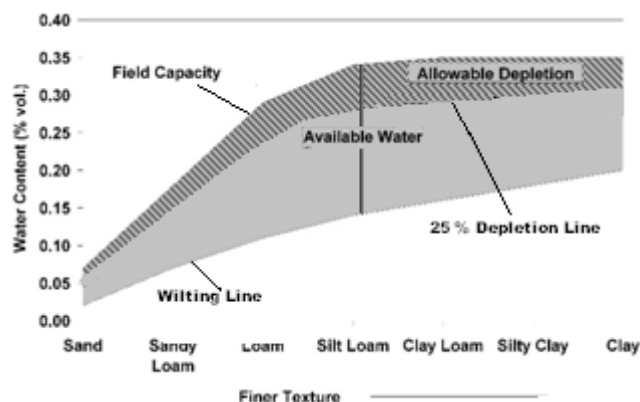

Figure 2. The amount of allowable depletion, or the readily available water, represents about 25% of the total available water.
- Allowable Depletion (readily available) is the point where plants begin to experience drought stress. Depending on soil type, the amount of allowable depletion leafy greens is about 25% of the total available water in the soil (Figure 2).